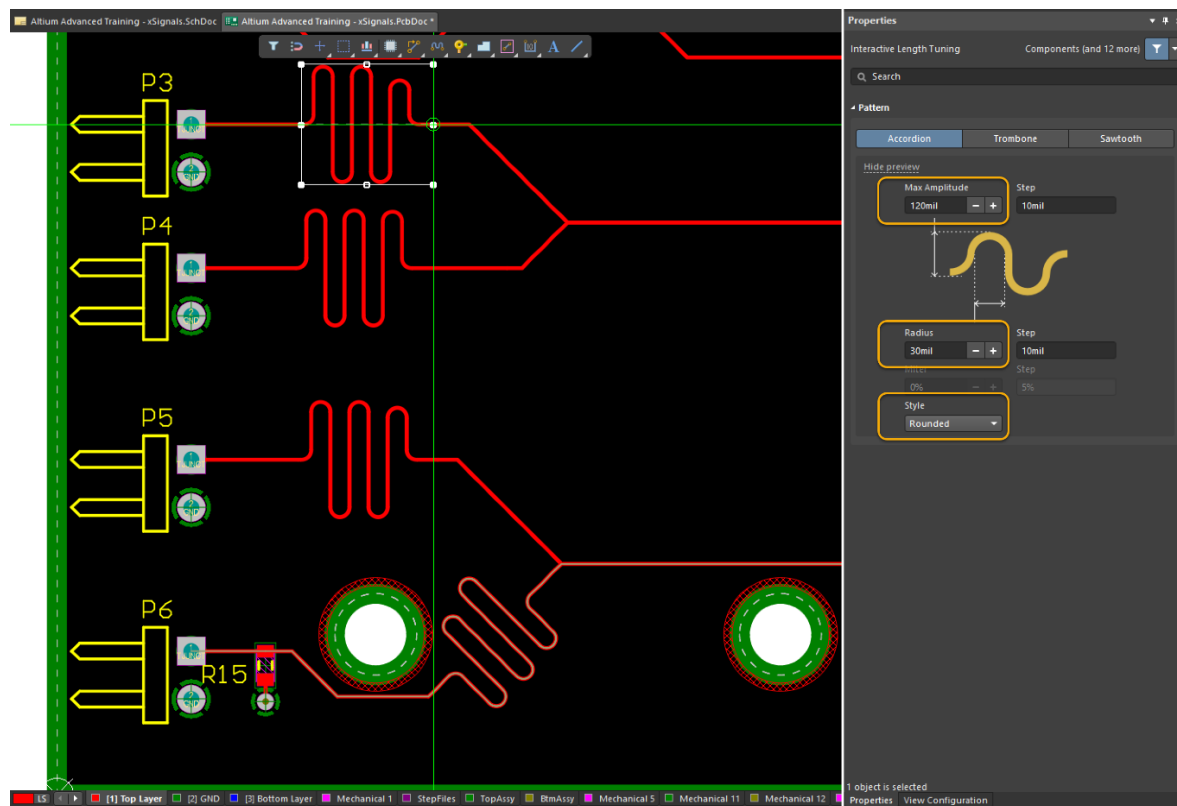

Figure 21 Tuned T-Junction xSignal Class.
48. We will need to Length tune all four TJUNCT xSignals, as shown in Figure 21.
51. Click on the Pause icon  to continue the length tuning. Complete length tuning on all 4 xSignals so that they now adhere to the length rule as shown in Figure 21.